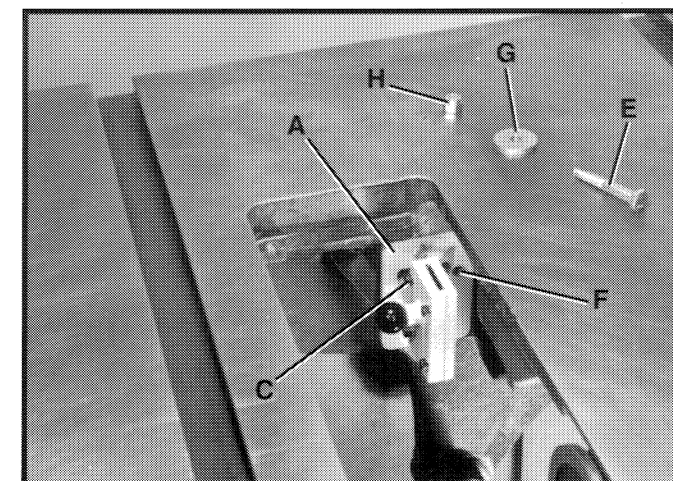
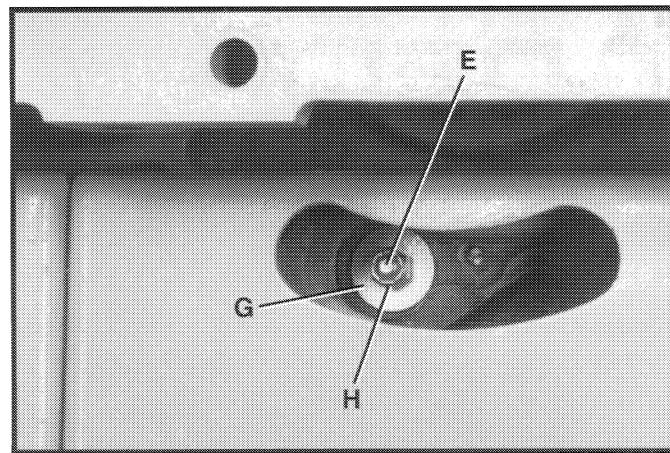
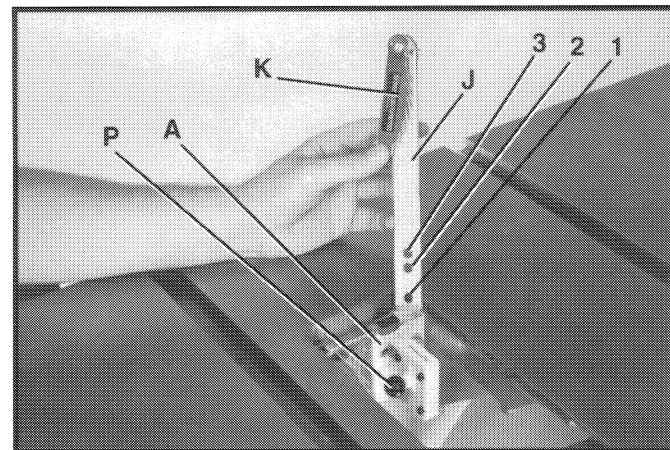
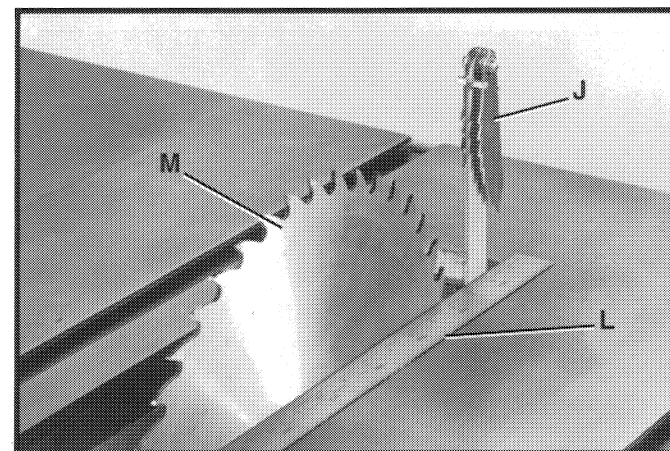

Fig. 3
Fig. 4
Fig. 5
Fig. 6
4. Insert 1/4-20 x 2" hex head screw (E) Fig. 3, into hole (F) of splitter mounting bracket (A).
5. Attach flat washer (G) Figs. 3 and 4, and 1/4-20 locknut (H) onto the 1/4-20 x 2" hex head screw (E) as shown from the rear of the saw.
6. Insert splitter (J) Fig. 5, into splitter mounting bracket (A). **IMPORTANT: Position of splitter depth holes (1, 2, 3) inside the splitter mounting bracket (A), is determined by the thickness of the stock that is being cut and the saw blade size. Always refer to table Fig. 5A when setting the depth of the splitter.** Splitter should simply snap into place. **IMPORTANT: Anti-kickback fingers (K) should be facing toward the front of the saw. Assemble the saw blade to the saw arbor and raise the saw blade to its maximum height. Make certain the saw blade is set at 90 degrees to the table.**
7. Using a straight edge (L) Fig. 6, against the saw blade (M) and splitter (J) as shown, align splitter horizontally with the saw blade. Adjust splitter mounting bracket (A) Fig. 5, as necessary.
8. Using a square (N) Fig. 7, check to be certain the splitter (J) is 90 degrees to the saw table. Adjust splitter mounting bracket (A) Fig. 5, as necessary. Tighten screws (C) Fig. 3 (one of which is shown), when the splitter is perfectly aligned to the saw blade and table. Tighten locknut (H) Fig. 4. Repeat adjustment **STEPS 7 and 8** if necessary until the splitter is aligned to the saw blade and table.
9. **IMPORTANT:** When performing non thru-cutting operations, such as dadoing, the splitter (J) Fig. 7, can be removed by pulling outward on knob (P) Fig. 5, and lifting splitter (J) from the splitter mounting bracket (A). **Replace splitter and blade guard to the machine after non thru-cutting operations are completed.**